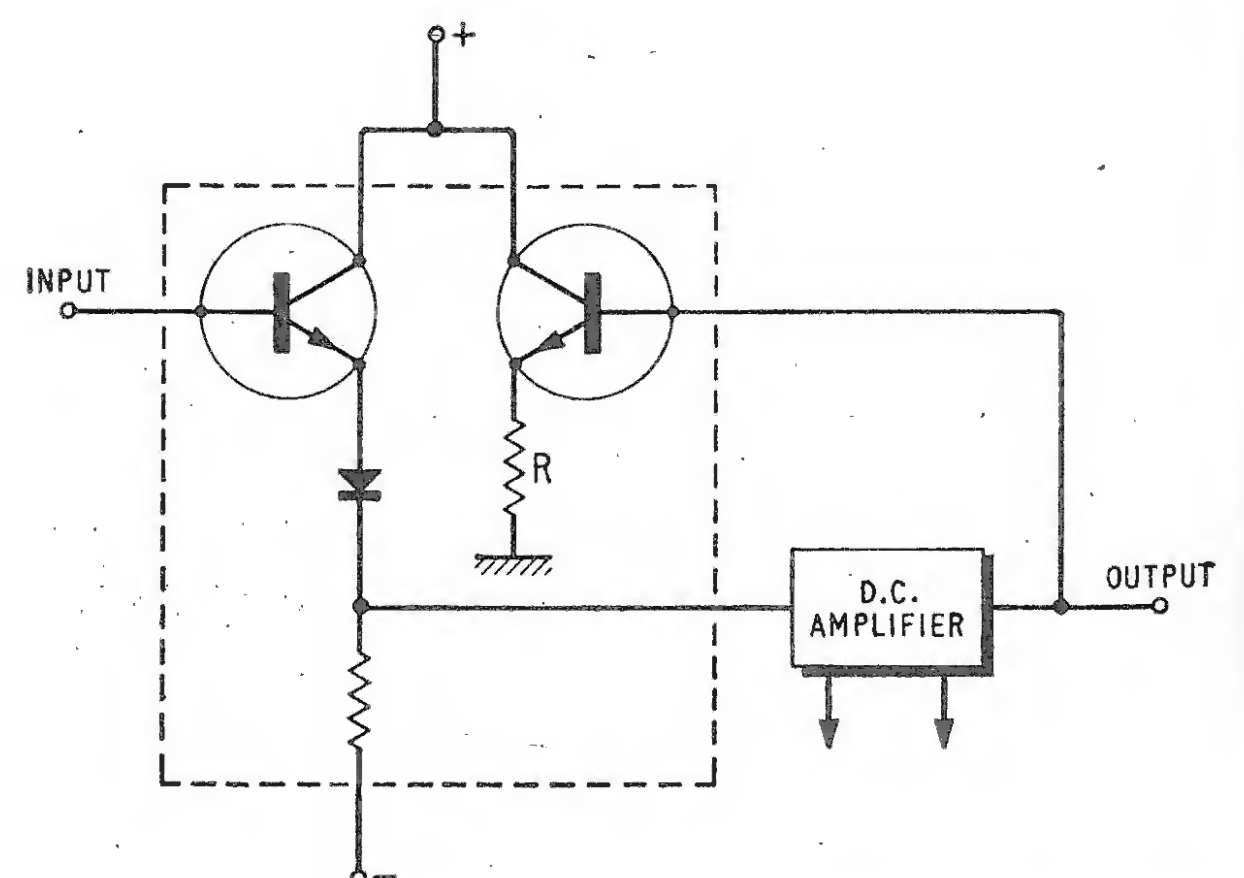

Fig. 2. Basic arrangement of one of the feedback stages, the box enclosing the thermal feedback elements.
The heater component is the emitter resistor (R) of an emitter follower which is fed from the output of the d.c. amplifiers (see Fig. 2). The sensing element, on the same silicon substrate, consists of two negative temperature coefficient diodes, one being the base-emitter junction of an emitter follower for convenience (on left of Fig. 2).
the tape of one "interval", a distance of 15.625 mil (see Fig. 2). The movement of the tape at slow speed during each quarter-revolution of the head drum however, is  $1/960 \times 3000 \text{ mil} = 3.125 \text{ mil}$ . This leaves to be compensated for a distance of  $15.625 - 3.125 = 12.5 \text{ mil}$ . The slight difference between this required distance and the head spacing of 12 mil is taken up by various compensating factors. In order to compensate for the difference in effective slant between recording and reproduction, the reading head drum is skewed at a small angle.